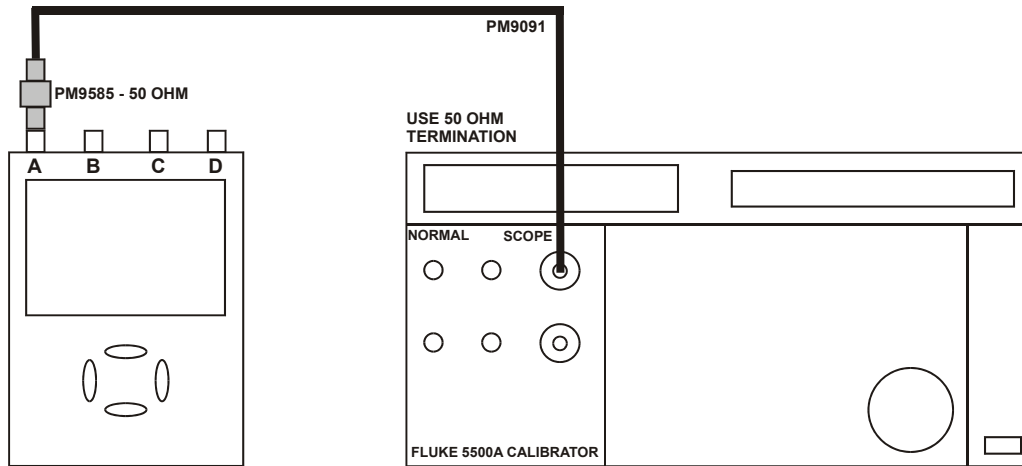

Figure 5-3. 5500A SCOPE Output to Test Tool Input A.
5. Connect the Test Tool to the 5500A SCOPE output as shown in Figure 5-3. Use 50Ω termination.
1. Connect the Test Tool to the 5500A as shown in Figure 5-3.